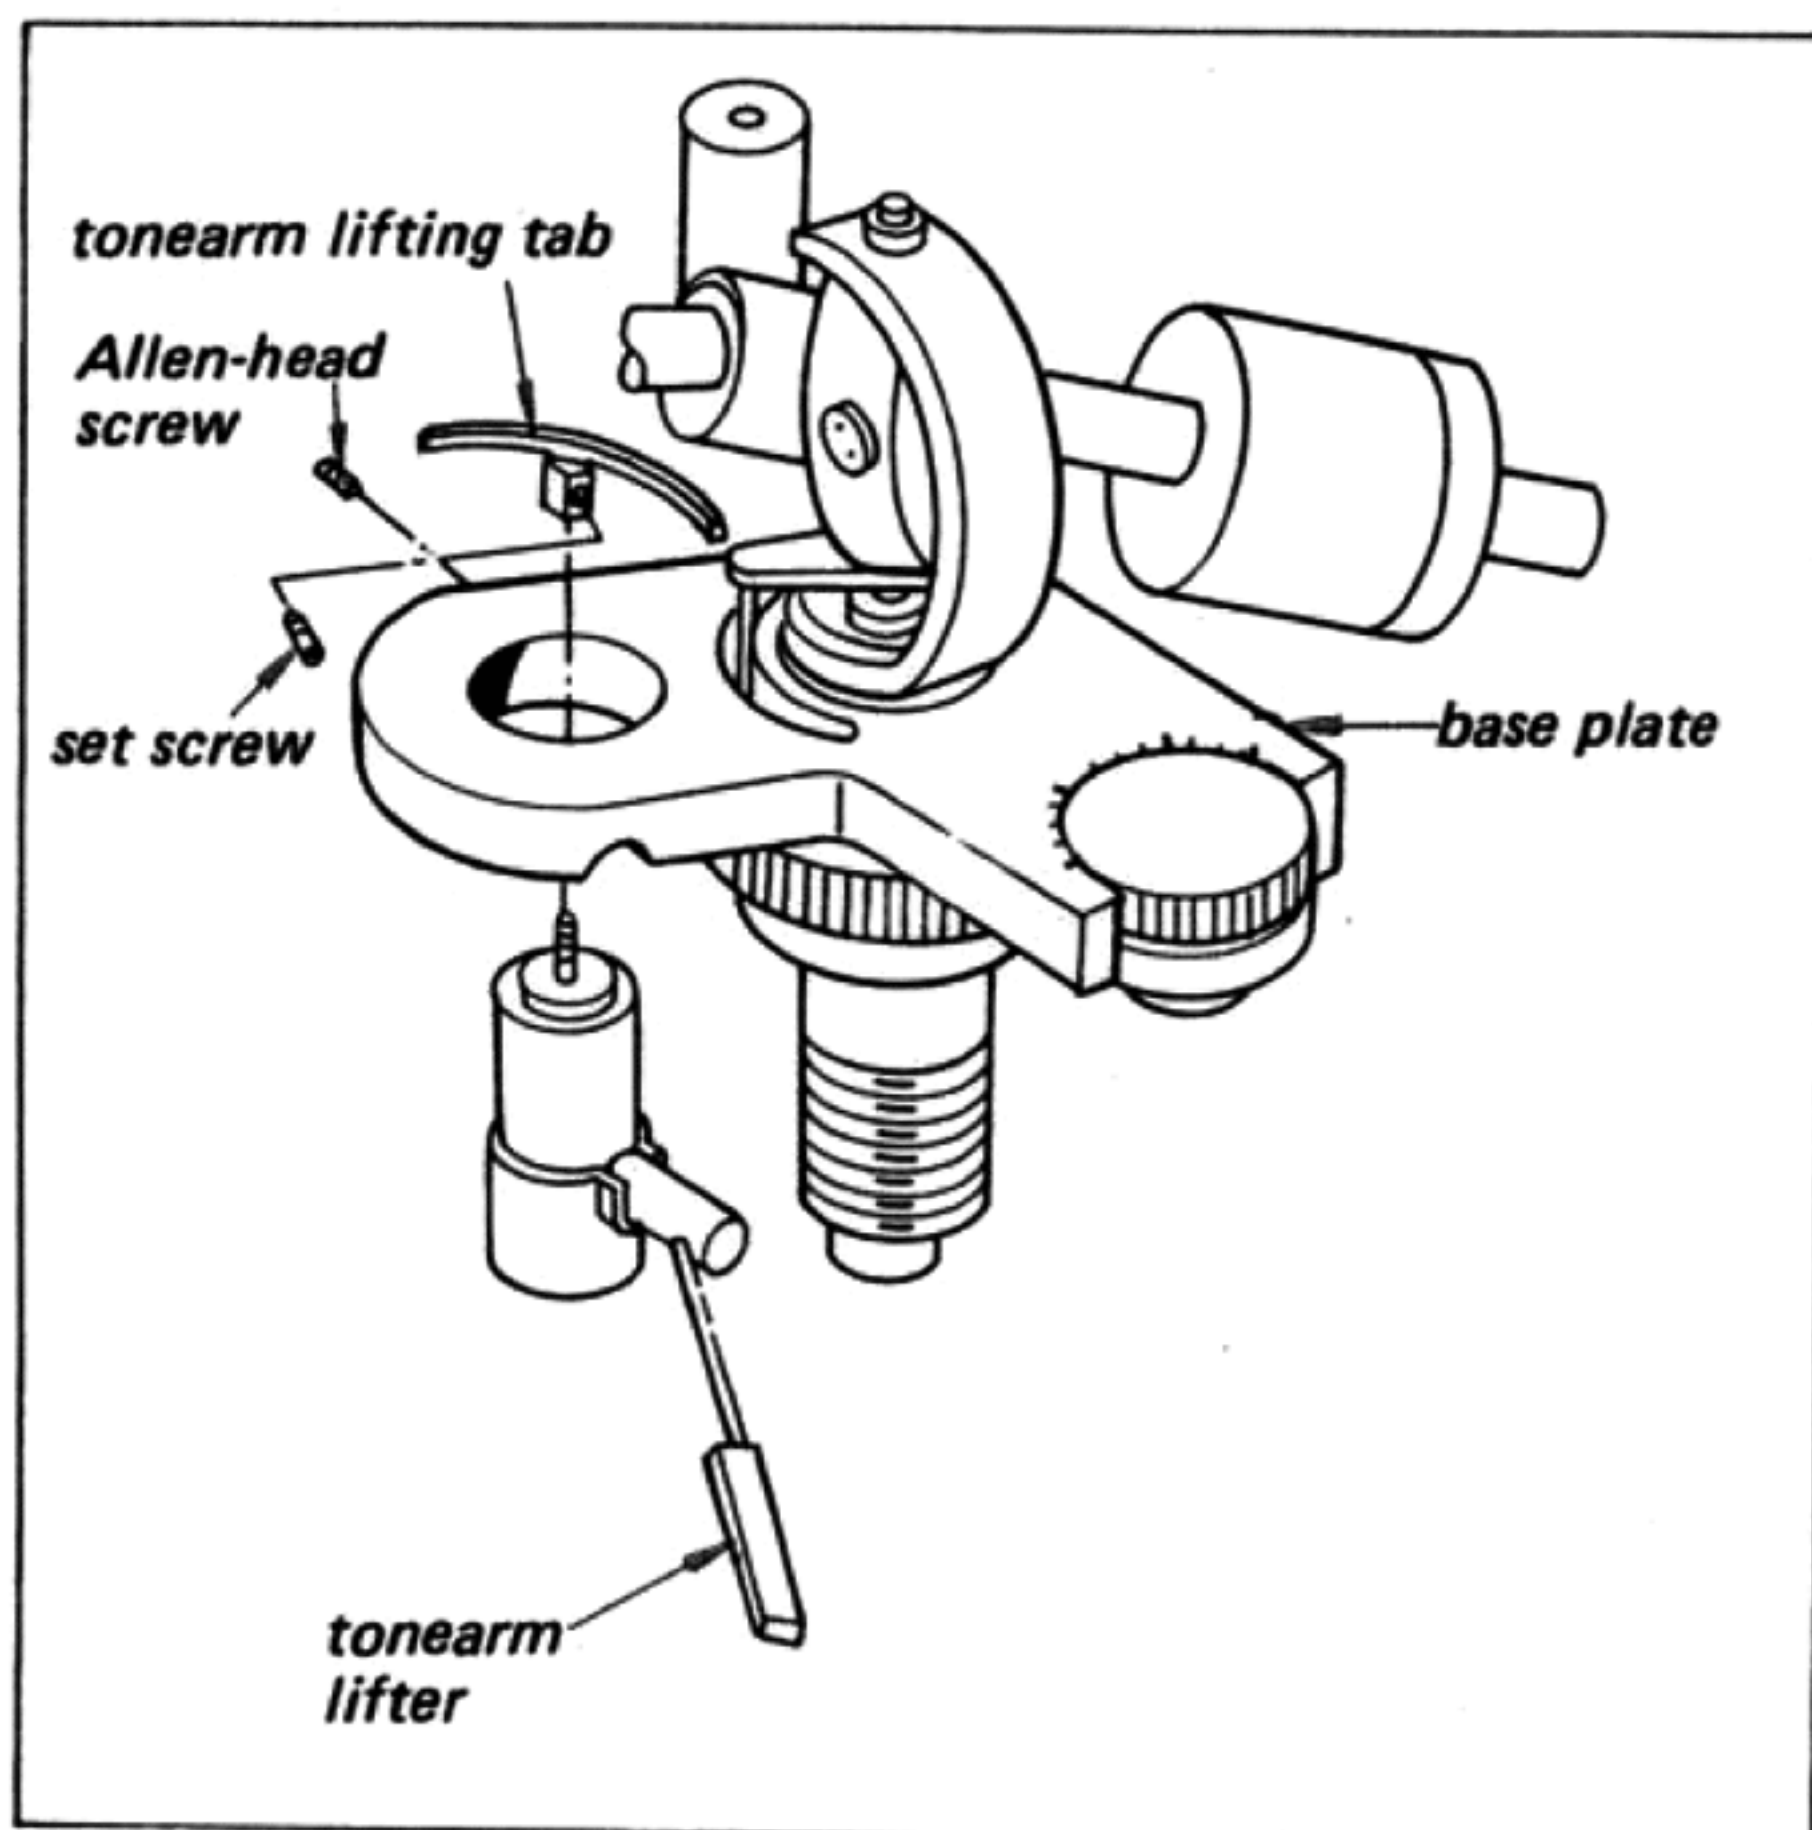

Fig. 2-15. Tonearm lifter replacement
- 2. Remove the set screw securing the tonearm lifting tab to the tonearm lifter as shown in Fig. 2-15.
4. Remove the allen-head screw securing the tonearm lifter to the base plate as shown in Fig. 2-15, and then depress the lifter gently. This frees the lifter.